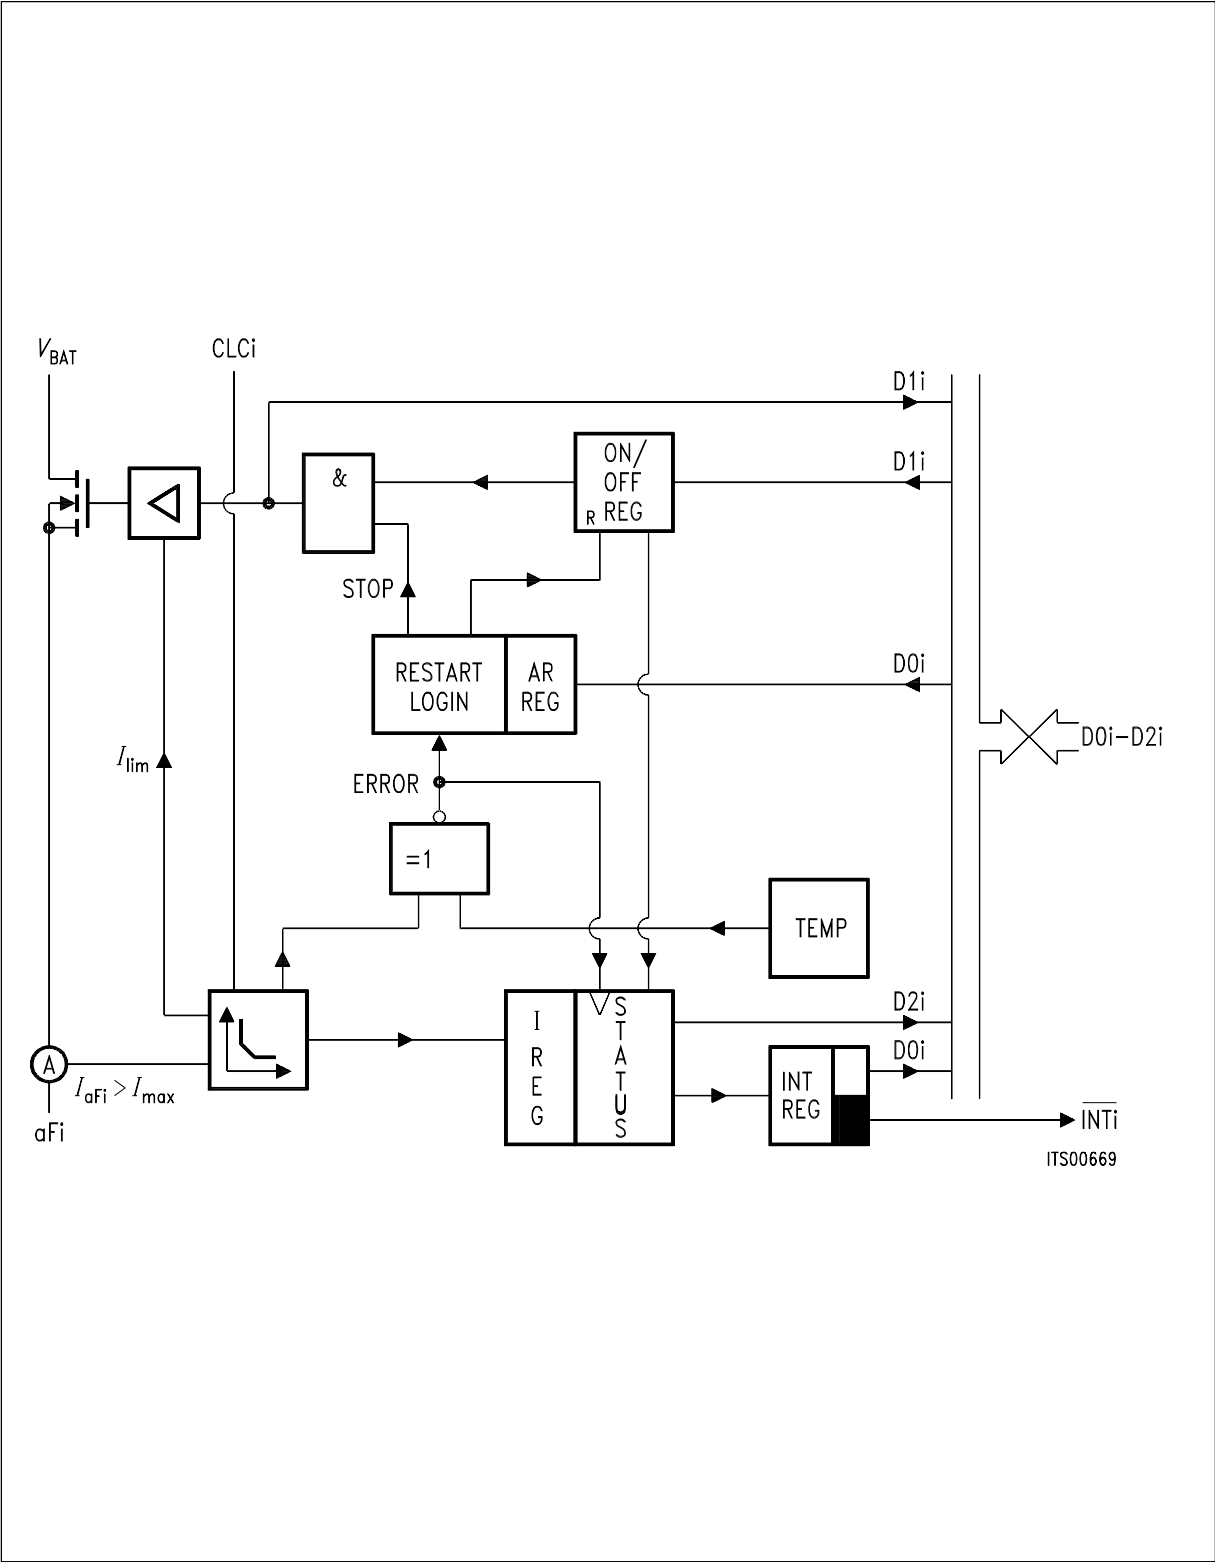

Figure 3
**Figure 3** shows the functional diagram of one of the four line drivers. The IEPC consists of a high voltage analog part and a low voltage digital part.